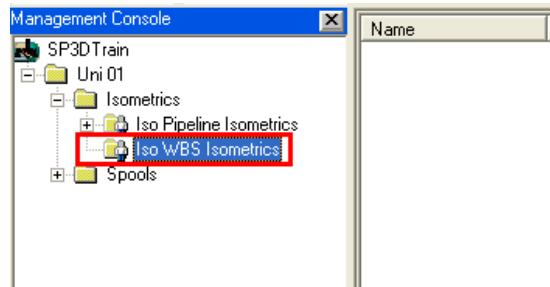

Figure 12: Management Console
In this task, the **Management Console** appears in the left panel of the SP3D window, as shown in Figure 12. The **Management Console** has components to create isometric drawings. The administrator should have already created the **Drawings by Query Manager** components needed in the project. In this session, the **Drawings by Query Manager** component is called **Iso WBS Isometrics**.
17. In the **Management Console**, expand the drawing hierarchy to **Unit 01>Isometrics>Iso WBS Isometrics**, as shown in Figure 12.